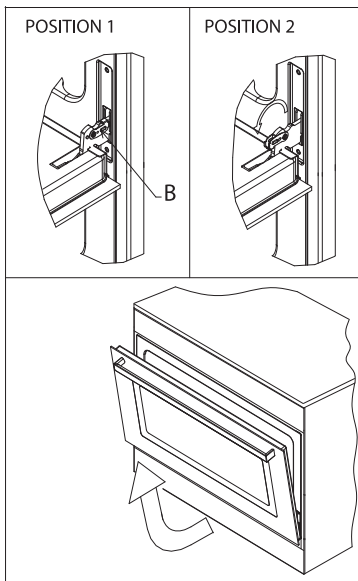

Figure 20
- System for securing the shelves:** the oven is fitted with a system for securing the shelves which allows them to be pulled out of the oven without removing them completely; although if it is necessary to completely remove the shelves, you can just lift them up and pull, as indicated in fig. 20.
- Turn the two levers marked "B", turning them from position 1 to position 2 (fig. 20).